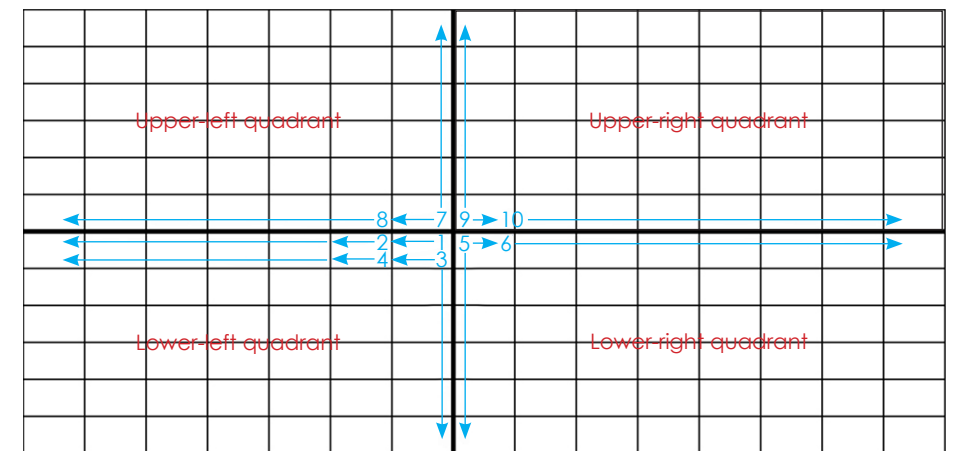

Figure 50: Divide Display into Four Quadrants
- Locate the center of the display and visually divide the display into four quadrants. Refer to **Figure 50**.
- Place jiggling pieces one by one from left to right in the lower-left quadrant. Refer to **Figure 50**.
- Shift down a row and place jiggling pieces one by one from left to right. Refer to **Figure 50**.
- Repeat **Step 10** and **Step 11** for the other quadrants, always starting at the center of the display and working toward the left or right and then toward the top or bottom. Refer to **Figure 50**.